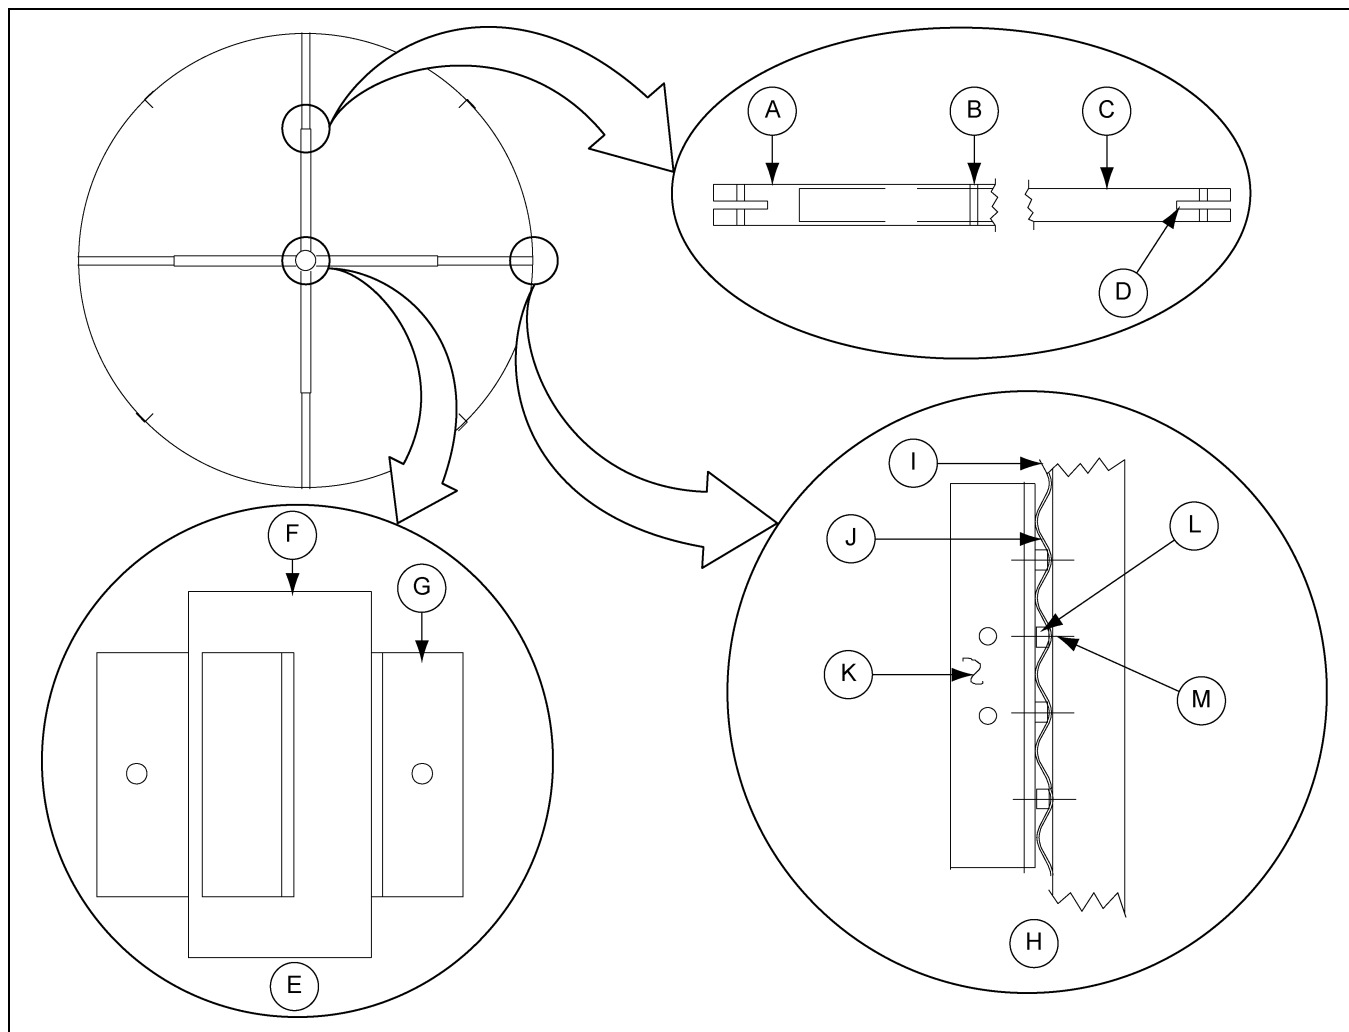

Figure 15C
- b. To prevent distortion of the assembled tank, a "spider" or horizontal bracing is recommended. A suggested method of this is illustrated in the following details. This may be done by using a center "hub" and pipe. The center hub is made of 6" schedule 40 pipe with 3" x 3" x 3/8" angle welded to it and the pipe bolting to the hub. The second smaller pipe will bolt to the lifting brackets attached to the stiffeners. (Refer to Figure 15C on Page 80.) Typical number of horizontal members that should be used are shown in the chart below.